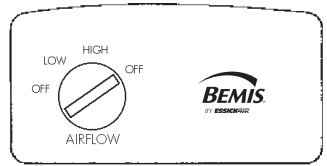

Figure 1
- 2) Refer to the operating controls. Model 726 000 and 726 905 (Figure 1) have two motor speeds and Models 736 200 and 737 600 (Figure 2) have three motor speeds. Rotate the knob to select the desired operating mode. The faster the motor speed, the more airflow and the greater the amount of humidification. The running time per filling varies with humidity of the room, speed setting, and condition of the evaporative filter.
- 5) Remove the water bottle, observe the water bottle cap, (A) and locate the valve stem mechanism (B). The cap may be removed for filling and to provide easy access for cleaning. The valve supplies a regulated amount of water to the water channel and wick. Do not attempt to increase water flow by modifying this valve. Doing so will invalidate your warranty and may cause water damage to your home. NOTE: The water level can easily be observed through the tinted water bottle. It is time to refill the bottle when the water level is no longer visible.